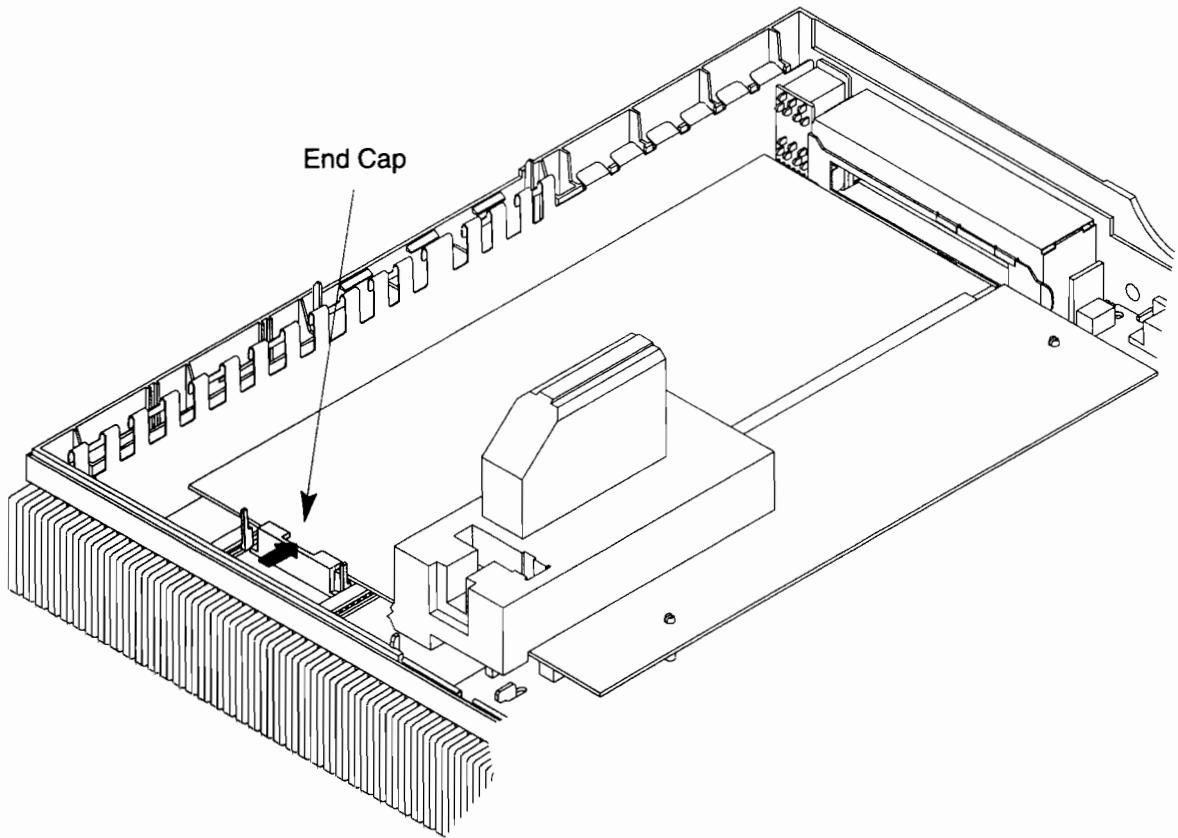

Figure B-17. Securing the EISA Board with the End Cap
8. Pinch the sides of the end cap and slide it to the EISA board (see Figure B-17). Fit the edge of the EISA board into the slot of the end cap to secure the board.